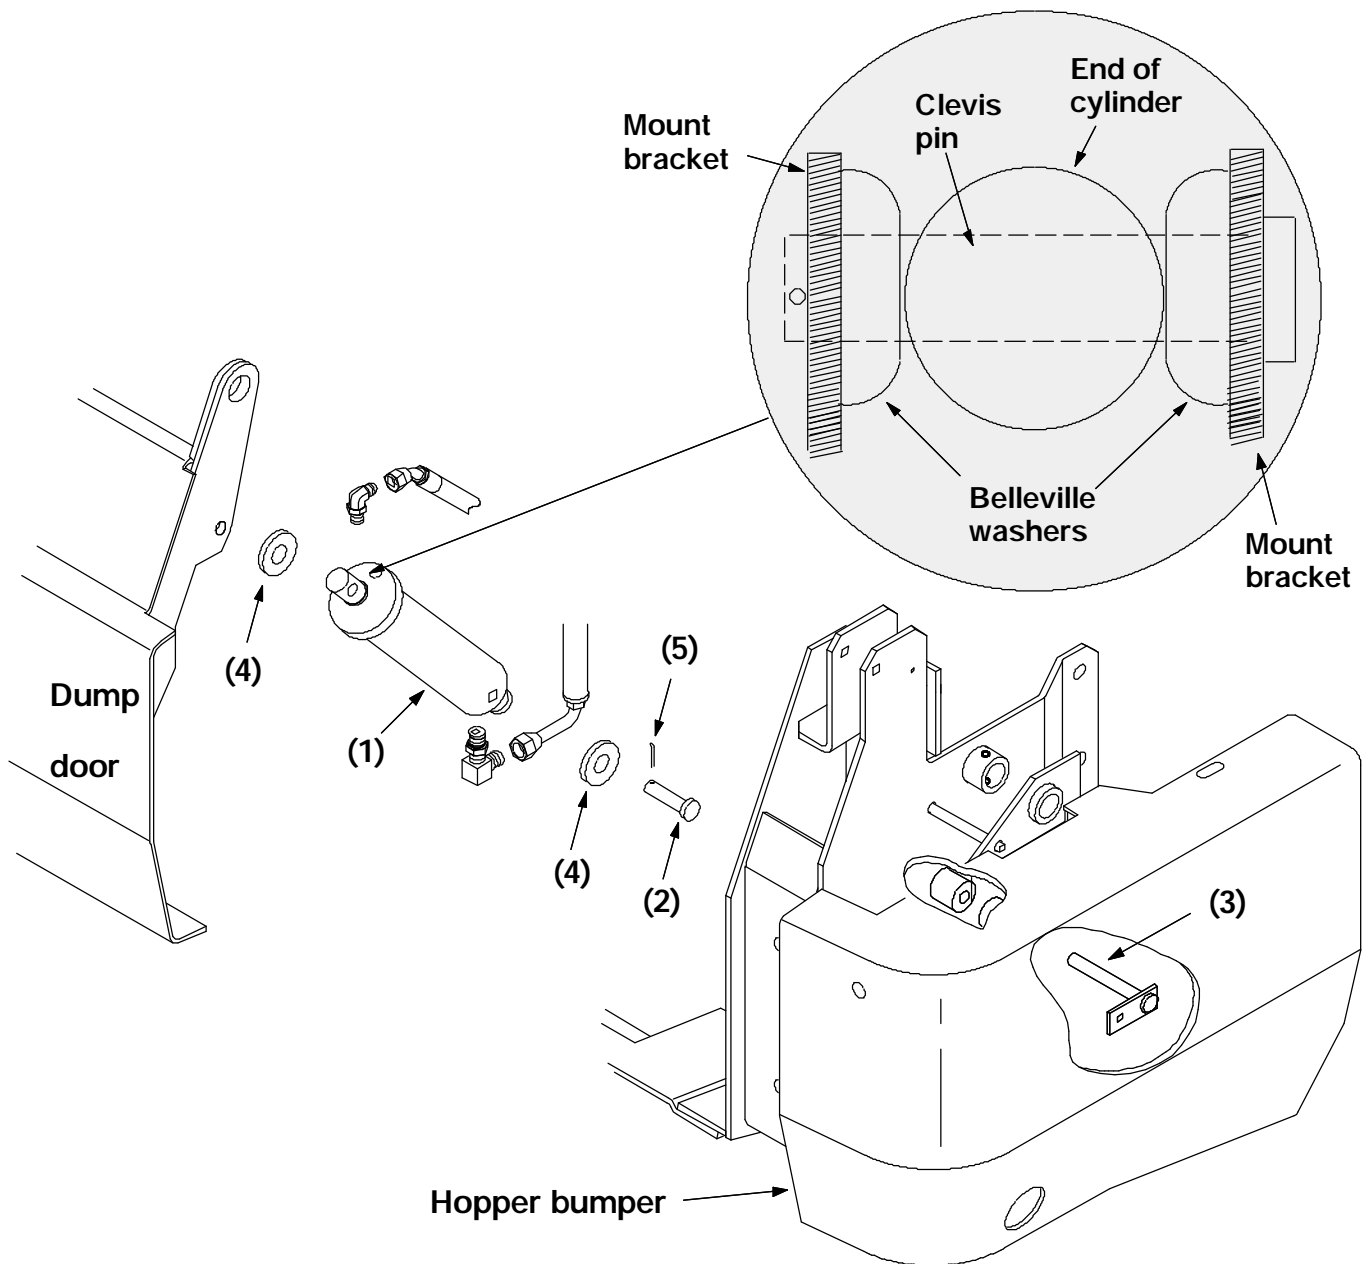

FIG. 1 - Dump Cylinder Assembly
(Refer to FIG. 1)
2. Open the dump door. Shut off the engine. (Refer to FIG. 1)
1. Disconnect and plug the two hydraulic hoses leading to the dump door cylinder that needs replacing. Mark the hoses for proper reassembly. (Refer to FIG. 1)
2. Remove the M8 hex screw holding the lower pin weldment to the hopper bumper. Remove and discard the pin weldment. (Refer to FIG. 1)
3. Remove and discard the cotter pin and clevis pin from the rod end of the dump door cylinder. Remove the dump door cylinder from the machine. (Refer to FIG. 1)
1. Remove the fittings from the old cylinder and install them in the new cylinder (1) in the same orientation. Discard the old cylinder. (Refer to FIG. 1)
2. Position the new cylinder (1) back in the machine in the same orientation as the old one. (Refer to FIG. 1)
3. Install the new pin weldment (3) in the lower end of the new cylinder (1). Reinstall the M8 hex screw and tighten to 18 - 24 Nm (15 - 20 ft lb). (Refer to FIG. 1)
4. Install the new clevis pin (2), two belleville washers (4), and cotter pin (5) in the rod end of the new cylinder (1). The two belleville washers (4) go on either side of the cylinder rod with the dished side facing the cylinder rod and the flat side against the mount brackets. (Refer to FIG. 1)
5. Reconnect the hydraulic hoses to the dump cylinder. Make sure to connect the hydraulic hoses to the correct fittings. (Refer to FIG. 1)
8. Start the engine and operate the dump door. Check for any leaks and proper operation. (Refer to FIG. 1)